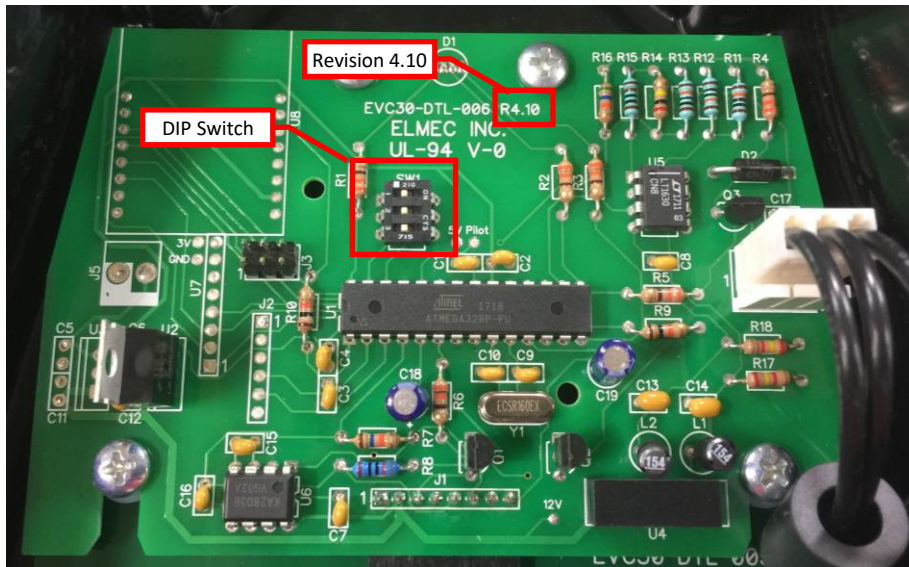
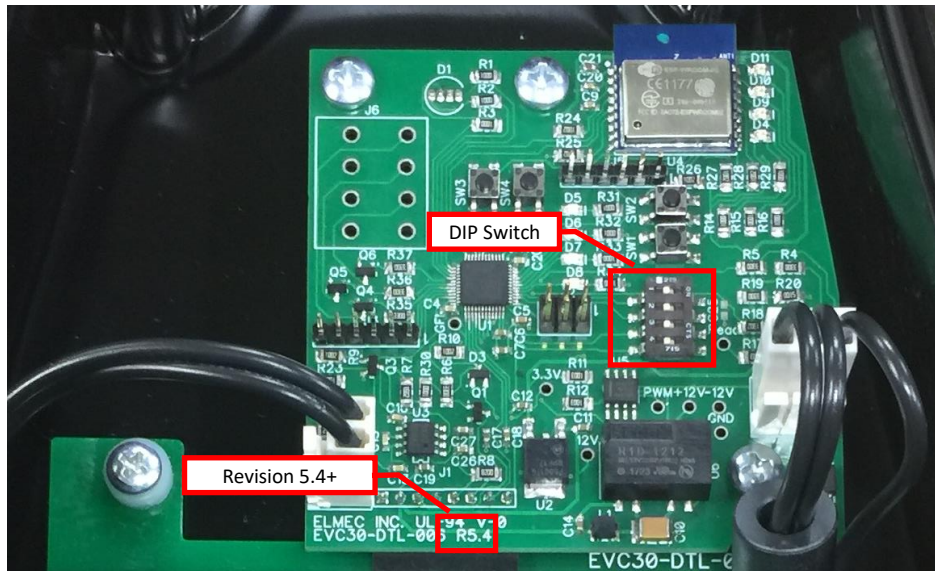

Figure 7 : Position of DIP Switch (SW1, R4.10)
Figure 8 : Position of DIP Switch (SW5, R5.4+)
- 3- Remove the six (6) screws holding the back plate to the charging station's enclosure.
- 5- Using a small flat screwdriver, modify the state of the DIP Switch by moving the small white levers to the left or to the right according to the desired value. Please refer to Figure 7 and Figure 8 and also to Table 5 and Table 6 depending on the revision of the control circuit board installed in the unit.